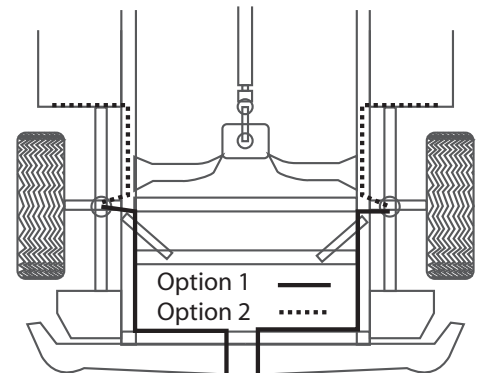

Figure 7
6. Route the air line along the frame to the air fitting on the air spring (Figure 7). Keep at least 6" of clearance between the air line and heat sources, such as the exhaust pipes, muffler, or catalytic converter. Avoid sharp bends and edges. Use the plastic tie straps (BB) to secure the air line to fixed, non-moving points along the chassis. Be sure that the tie straps are tight, but do not pinch the air line. Leave at least 2' of slack to allow for any movement that might pull on the air line.